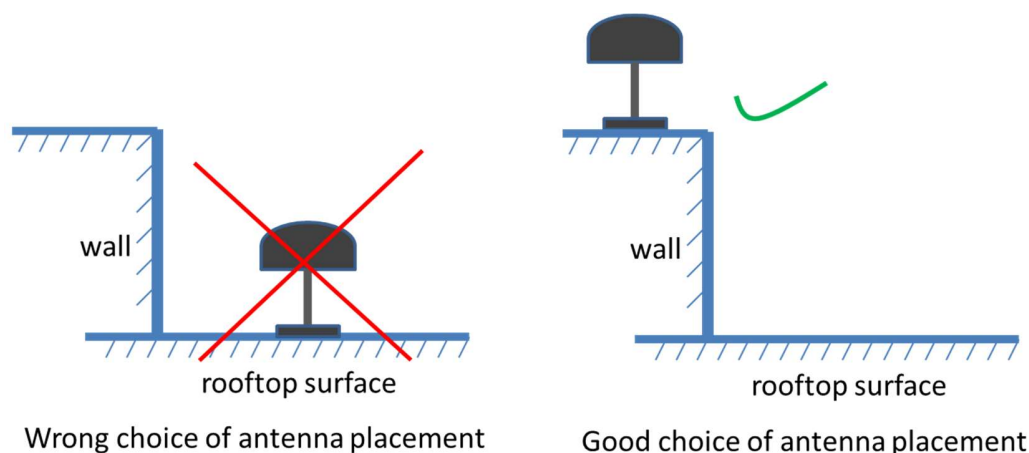

FIGURE 4: ANTENNA MOUNTING CONSIDERATIONS
- Antenna should be mounted vertically on a flat surface such that there are no obstacles like wall or any other superstructure (as shown in Figure 4) which can block the signal transmitted from satellite to reach the antenna.